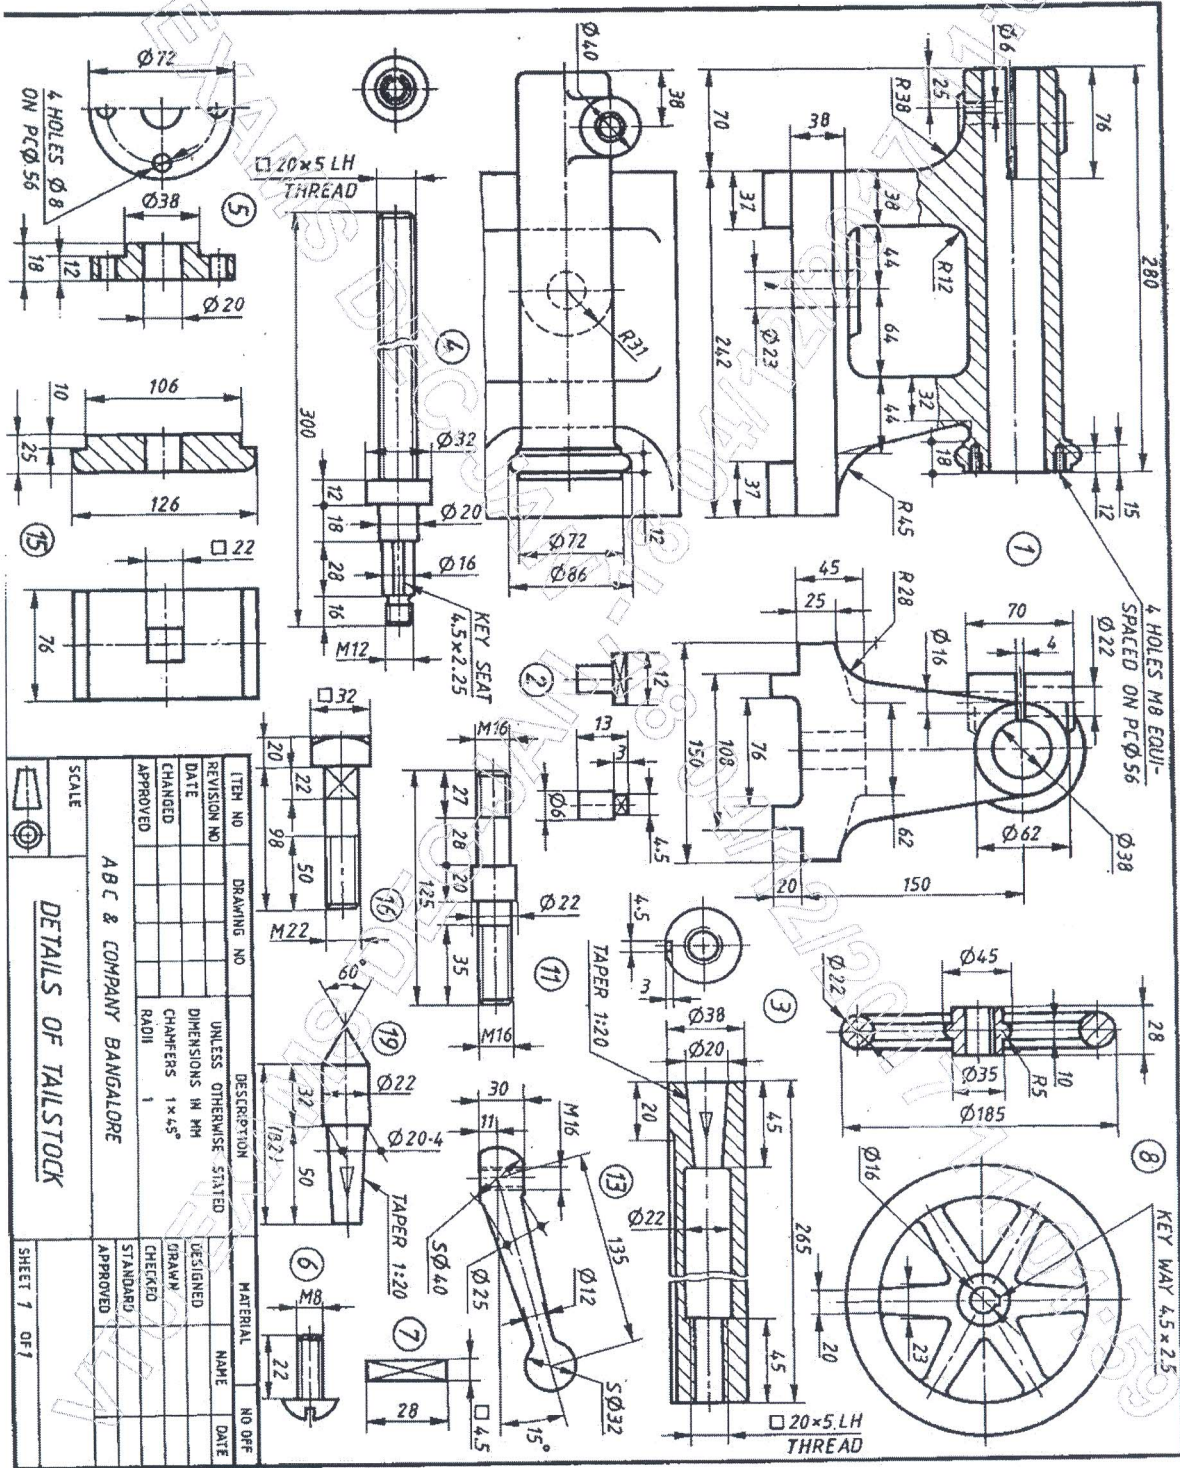

Figure 2. "TAILSTOCK OF LATHE"
- Q.No.6** Details of "TAILSTOCK OF LATHE" is shown in following figure 2. Assemble the parts and draw the following views.